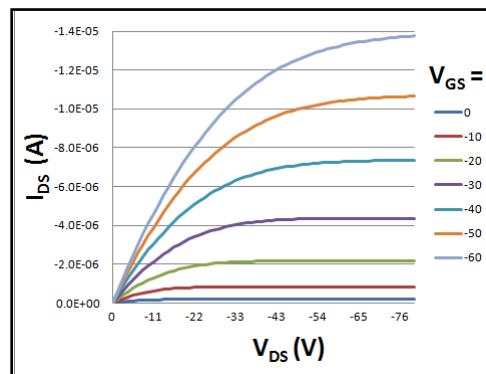

Figure 14. Output Characteristics (or IV) curves.
2. Click on *Device and Interface*: a list of devices installed or simulated on the computer will appear, see figure 14.
3. Familiarise with the tool bar commands on the central subpanel of MAX, see figure 14.
If a constant voltage $V_{GS} > V_T$ is applied to the gate while a varying voltage sweeps⁹ the drain, an output characteristic curve $I_{DS}(V_{DS})$ is measured. If this operation is repeated for several V_{GS} 's, the resulting family of output curves constitutes the well-know hallmark of transistor behaviour, see figure 14.
On figure 14, two main transistor *operation regions* are clearly visible. For small V_{DS} , the drain current is linearly dependent on the drain voltage; this constitutes the **linear** or **Ohmic region**. For large V_{DS} , the current tends to saturates (i.e. I_{DS} becomes independent of V_{DS}) and the transistor is said to operate in the **saturation region**. A third, important feature of the IV curve in figure 14 is the so-called **field effect** response of I_{DS} , whereby the drain current increase as a larger V_{GS} is applied.